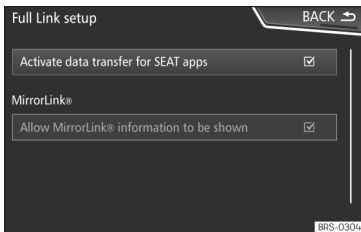

Fig. 171 Full Link Setup
- In the main menu for the Full Link settings, select **Activate data transfer for SEAT apps** »» Fig. 171.